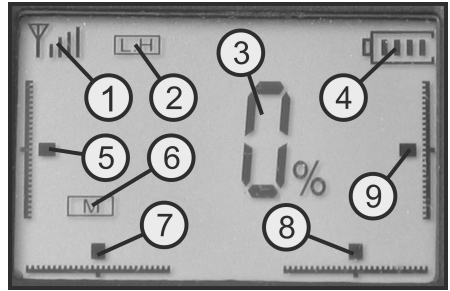

Figure 2
Then move the joystick back to the middle position. Now the display (2) shows only the items shown in Figure 2.
As the transmitter batteries get weaker, the four bars of the battery indicator gradually disappear from the display (see Figure 2, no. 4).